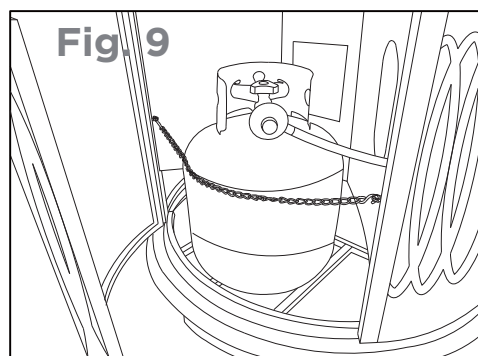

Fig. 9
4. Secure the cylinder with the chain (see Fig. 9).